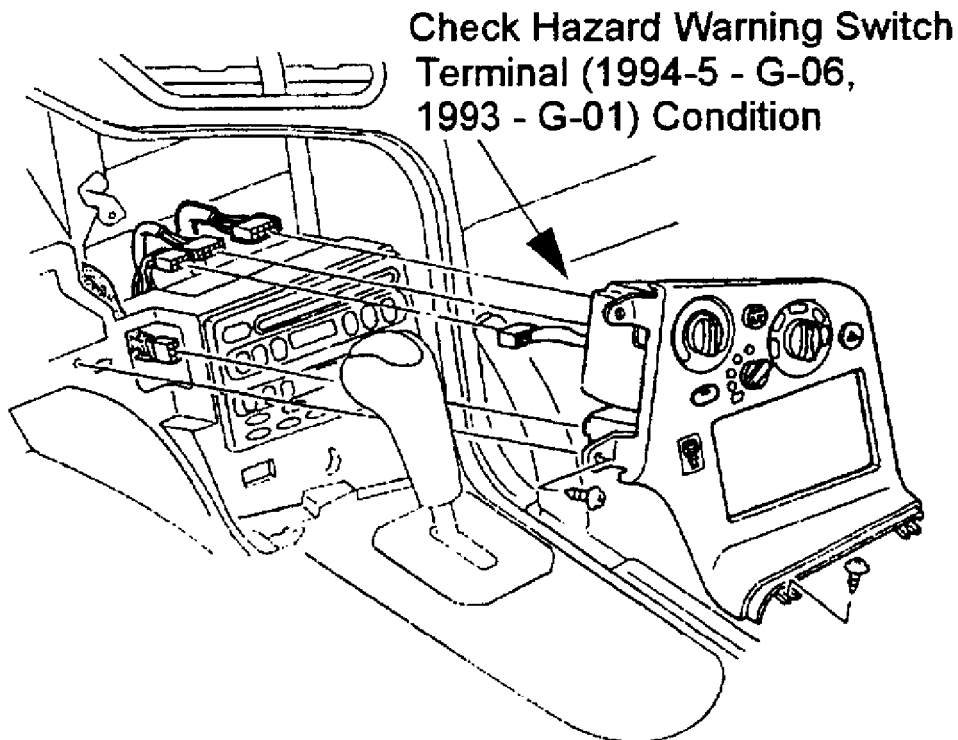

Fig. 1: Removing Control Panel/Heater Control Unit
These conditions may be caused by insufficient contact at the hazard switch connector (1994-95 - G-06, 1993 - G-01). See Fig. 1
2. Remove the control panel and the heater control unit. See Fig. 1. Refer to section G of the BETM for removal instructions.